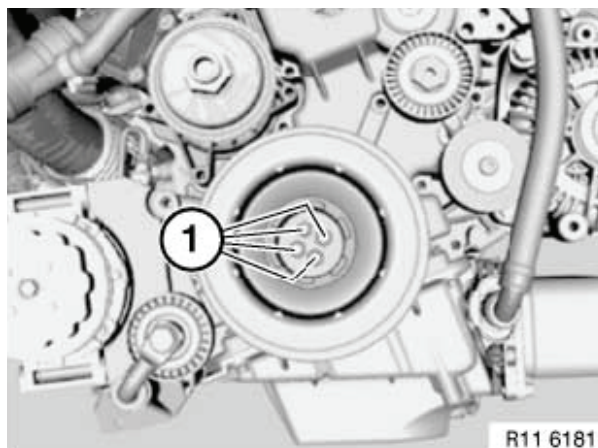

Figure 5-84
- Remove bolts (Figure 5-84, (1)).